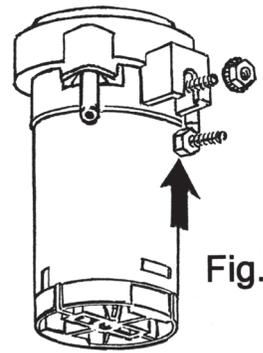

Fig. 3
COMPRESSOR INSTALLATION: Fig. 3 & 4
8. To secure the compressor, drill one 3/16" hole. When possible, mount the compressor vertically (air outlet on top). Install the head of the bolt into the mounting bracket's slot on the side of the compressor. Secure the compressor using the lock washer/nut provided as shown in Fig. 3.